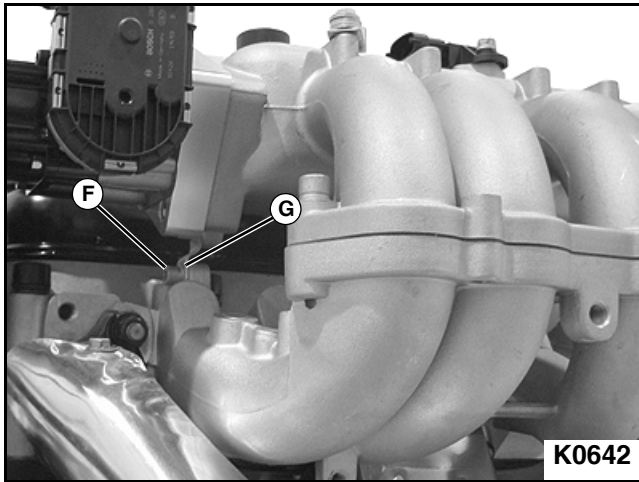

Figure 3-66
4. Remove mounting bolt (F) securing upper intake manifold to bracket (G). **See Figure 3-66.**